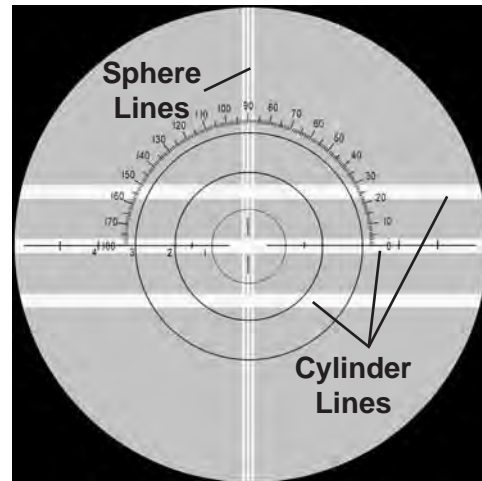

Figure IU-01 Sphere Power Only
2. If both the Sphere Lines (3 narrow lines) and Cylinder Lines (3 wide lines) come into focus at the same time, the lens has sphere power only and the sphere power can be read on the Power Wheel. Refer to Figure IU-01.